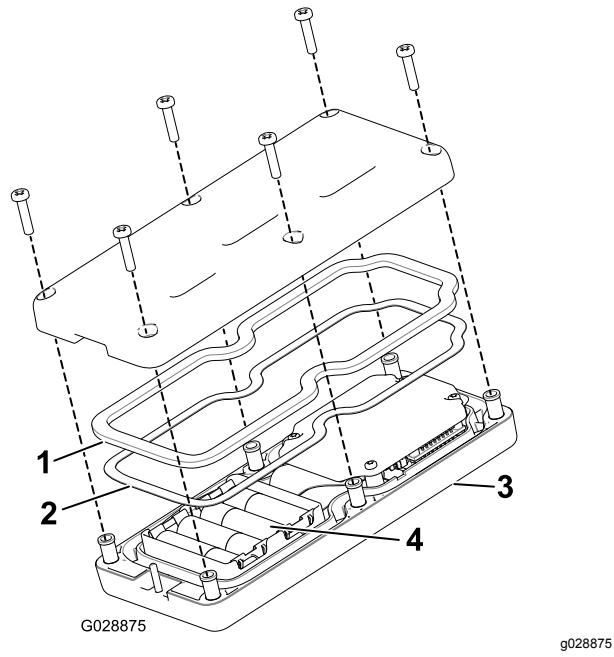

Figure 18
2. Install the batteries into the terminal cradle observing proper polarity. (If the batteries are improperly installed, the unit will not be damaged, but it will fail to operate.) The cradle is embossed with polarity markings for each terminal (Figure 18).
3. Ensure that the steel gasket and rubber seal are seated in the channel in the remote and set the back cover in place (Figure 18).
4. Secure the cover with 6 screws (Figure 18) and torque them to 1.5 to 1.7 N·m (13 to 15 in-lb).